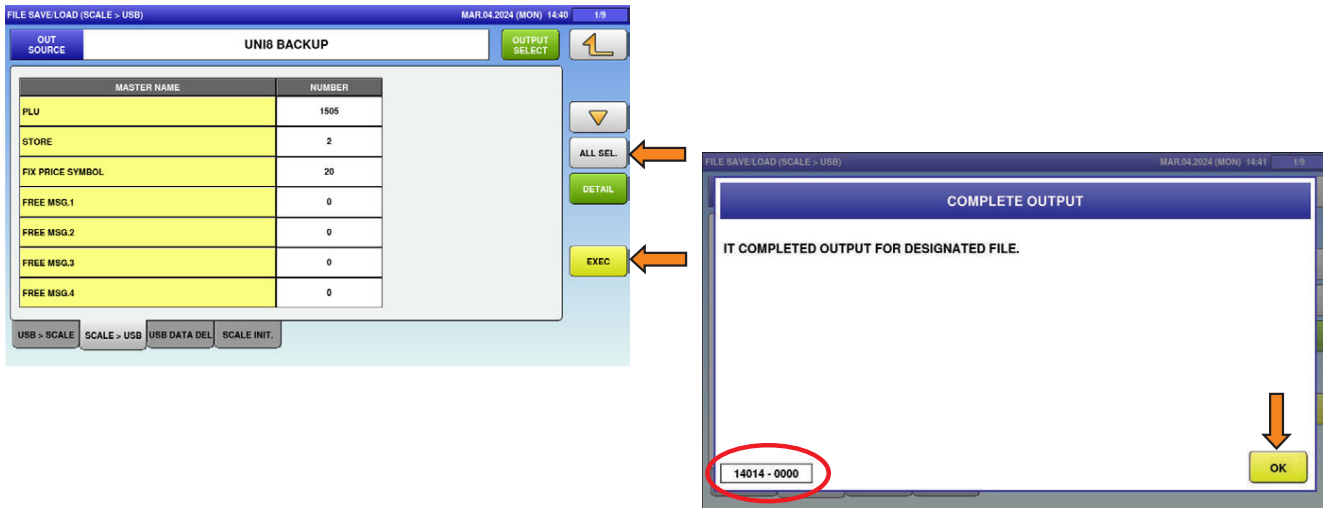

Figure 2-6. Select All Files and Output to USB Memory Stick
12. Press **ALL SEL.** to select all files for output. See Figure 2-6.